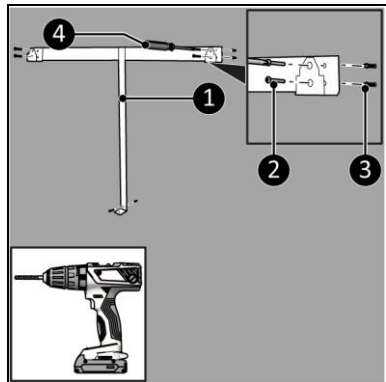

Figure 7
4. Place the wall bracket (Figure 7, pos. 1) against the wall and mark the five holes.
6. Place plugs (Figure 7, pos. 3).
7. Screw and tighten the wall bracket to the wall with five large screws (Figure 7, pos. 2) using a Phillips screwdriver (Figure 7, pos.4).